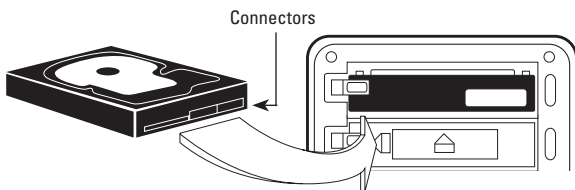

Figure 1: Installing hard drives on a Drobo FS
2. With one hand, hold the hard drive so that its connectors are positioned at the device and toward the bottom for the Drobo FS (see Figure 1), or positioned toward the left, for the Drobo B800fs (see Figure 2).